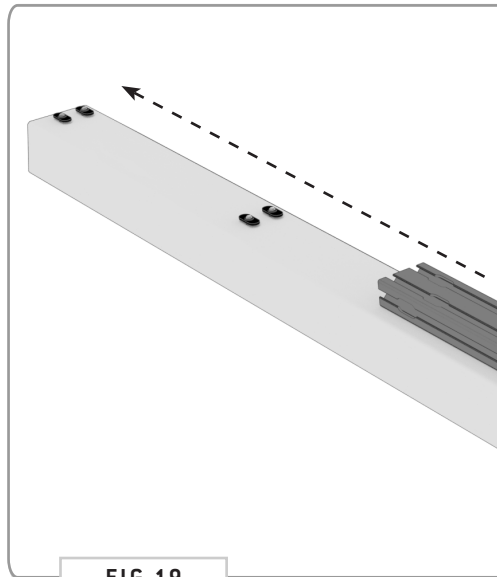

FIG 19
6.2 Crossbar Install: Now, slide the **Crossbar** onto the **Rear Spoiler**. You'll have to straighten each **T-Nut** as you go to get it to feed into the **Crossbar** correctly (FIG 19). After sliding the **Rear Spoiler** and **Crossbar** together, tighten all fasteners.